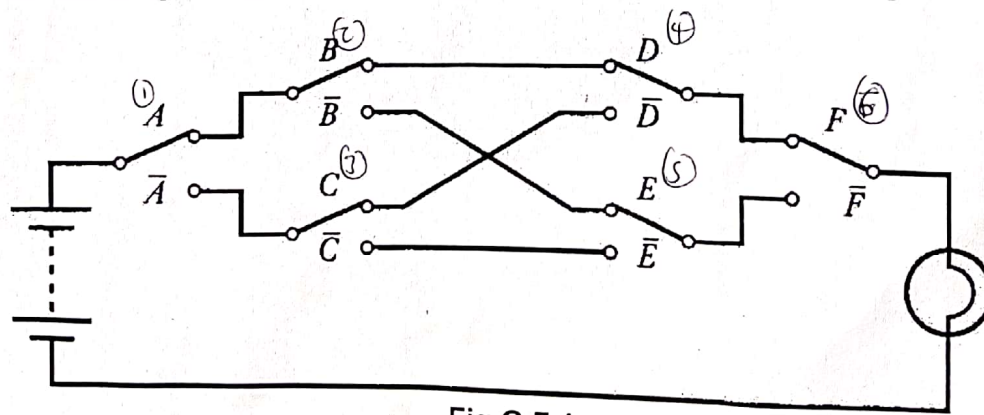

Fig.Q-7.1
- (b) In the Figure Q.7-1, a power source a lamp and a number of switches are used to represent a logical expression. Derive an expression for the following arrangement using AND, OR and NOT operations. [ 4 marks ]